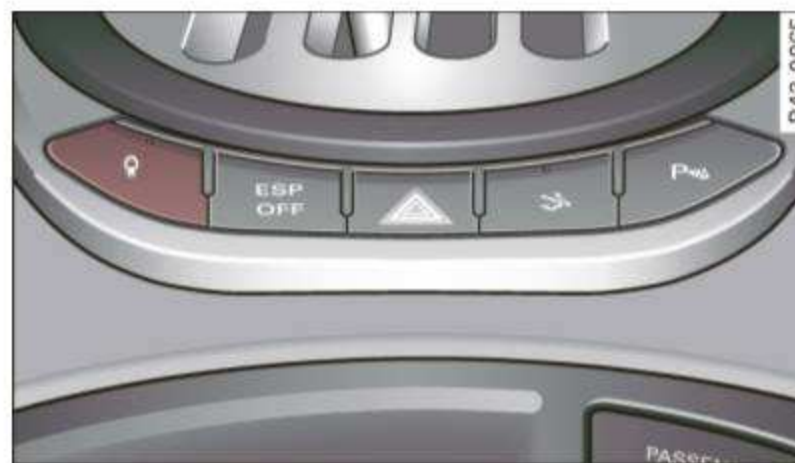

Fig. 66 Center console: Switch for Audi magnetic ride
- Press the switch ⇒ fig. 66 to turn sport setting on or off.